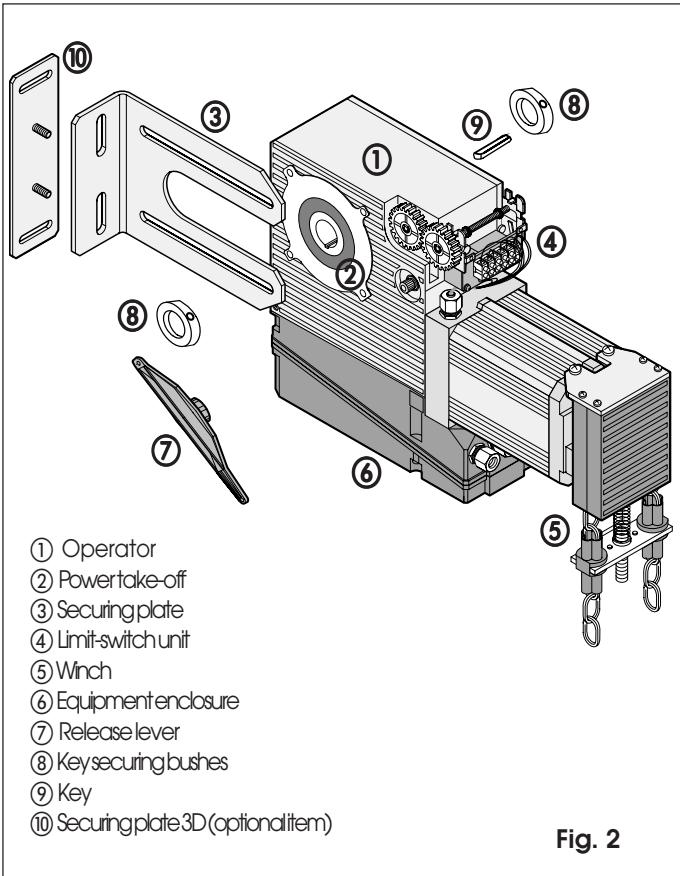

Fig. 2
- Insert the first key securing bush and the key itself in the shaft (see fig. 2 ref. 8 and 9).